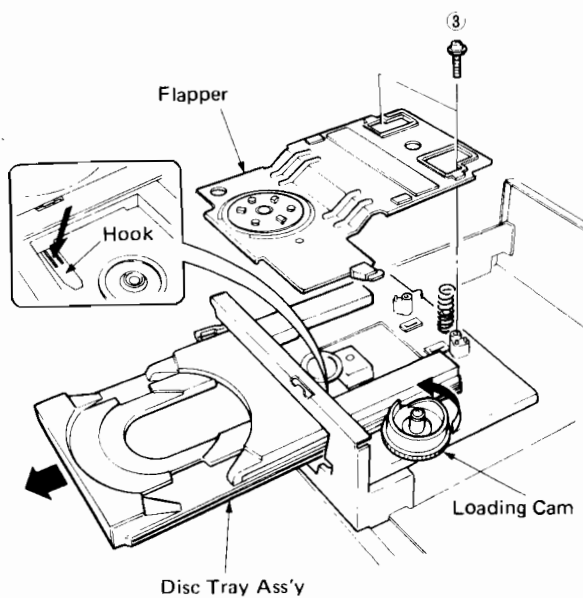

Fig. 2
- a. Remove 2 screws ( ③ ) in Fig. 2, and then remove the Flapper.